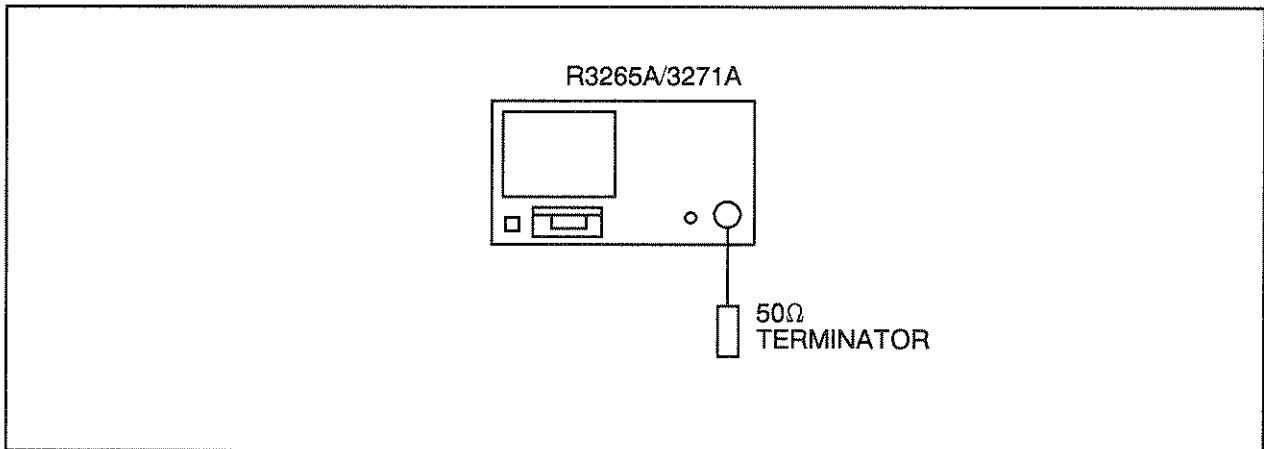

Figure 4-9 Displayed Average Noise Test Setup
- (1) Connect the equipment as shown in Figure 4-9.